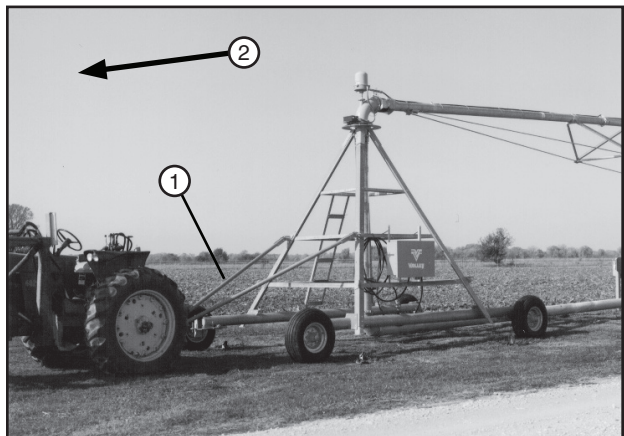

Figure 56-3 1. Tongue
10. If necessary, move the tongue to the side of pivot that faces the towing direction. See figure 56-3.